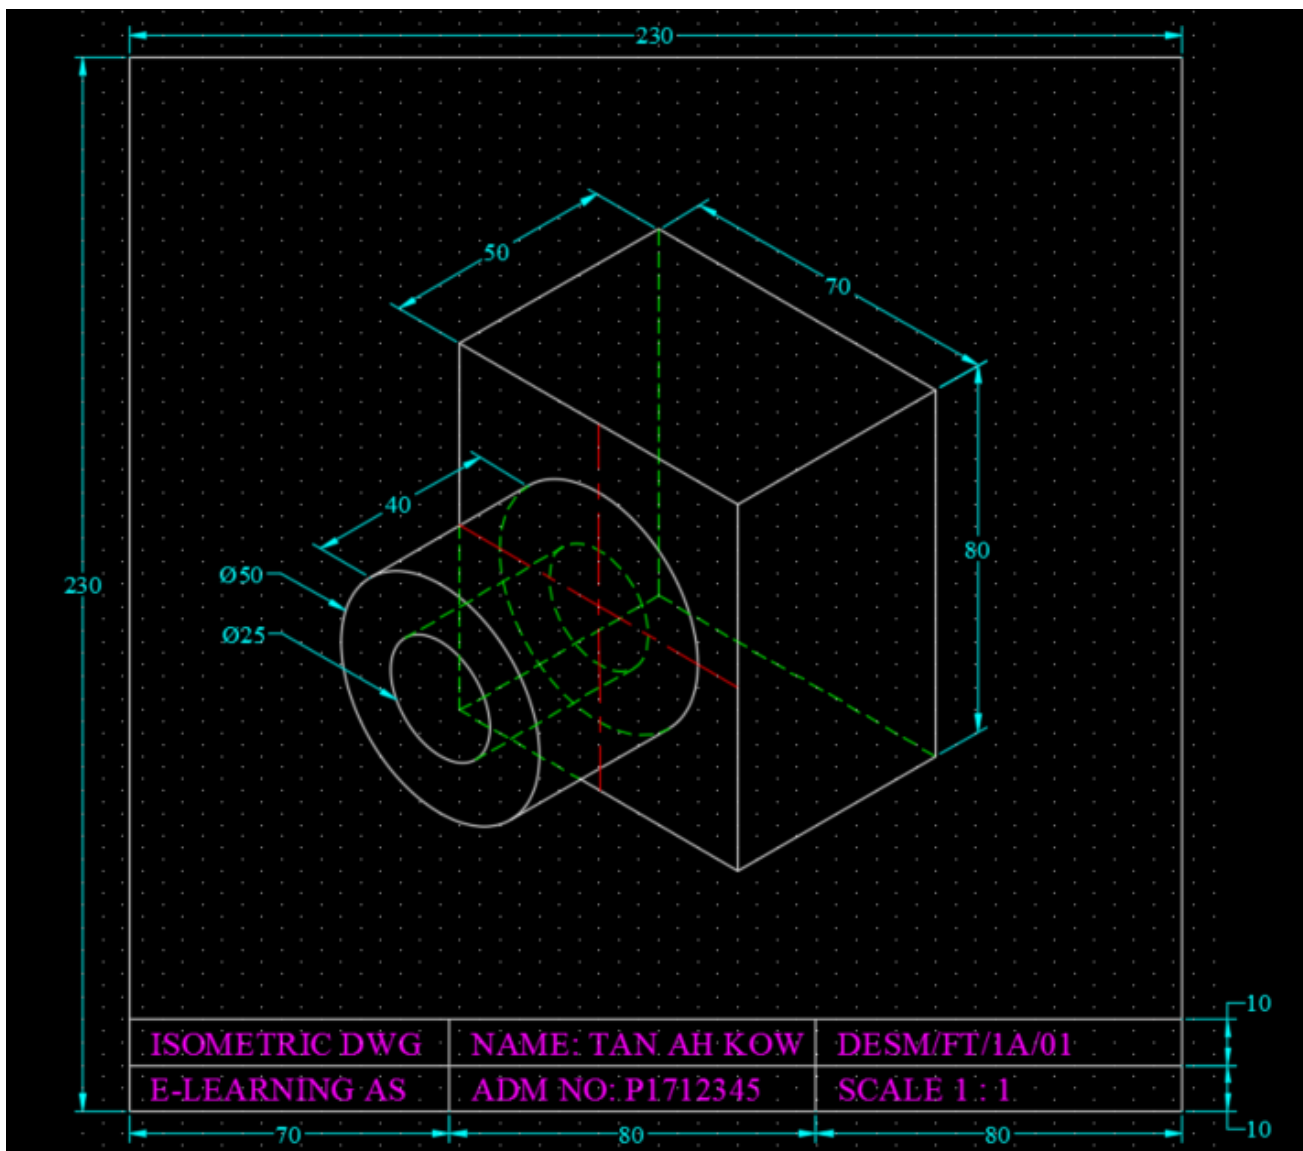

FIG 20
20. The final isometric drawing is shown below (FIG 20):